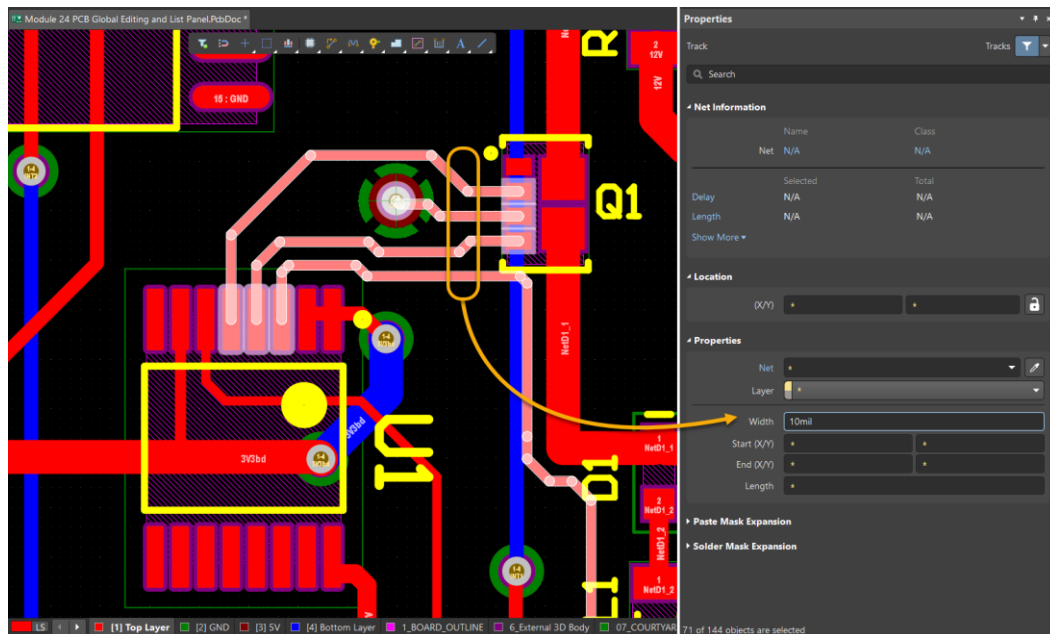

Figure 5. Board Layout with modified traces
13. In the *Properties* panel, locate the *Width* field and change the value from 12mil to 10mil and hit **Enter**. The changes will be reflected as shown in Figure 5 below.